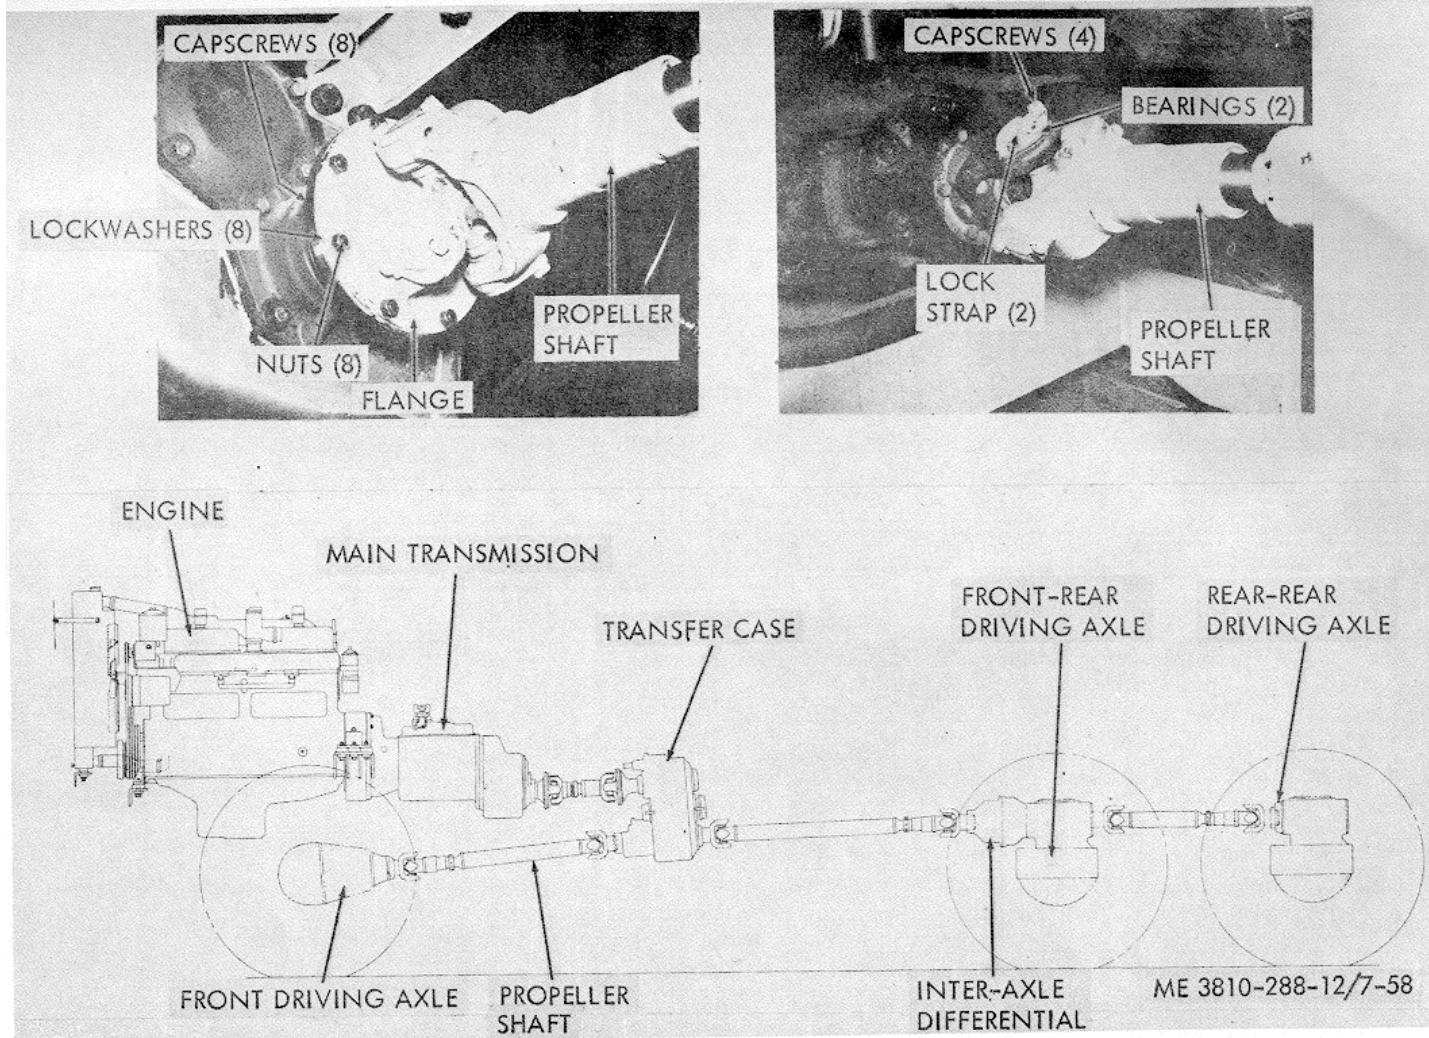

Figure 7-58. Propeller shaft, removal and replacement.
a. General. The locations of the four propeller shafts used on this machine are shown in figure 7-58. The propeller shafts which connect the driving axles to the transfer case are identical with the exception of their length.
b. Main Transmission Propeller Shaft Replacement. Refer to figure 7-58 and remove the cap-screw, lockwashers, and nuts which connect the flanges at each end of the propeller shaft, and remove the propeller shaft. Install the propeller shaft as shown in figure 7-58.
c. Driving Axle Propeller Shaft Replacement. Refer to figure 7-58 and bend the lock straps away from the capscrews. Remove the capscrews, lock straps, and bearings from each end of the propeller shaft. Remove the propeller shaft. Install the propeller shaft as shown in figure 7-58.